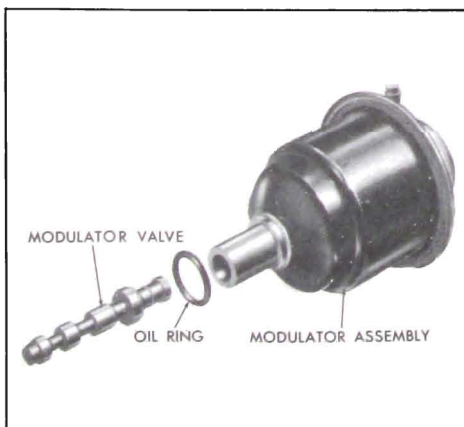

Figure 5-685
1. Inspect the modulator assembly for any signs of bending or distortion. See Figure 5-685.